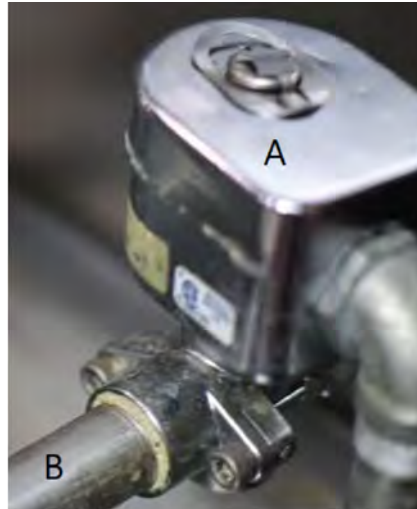

Figure 2.
- 6) Clean from the outlet in the fry pot to the deadweight valve (Figure 2).